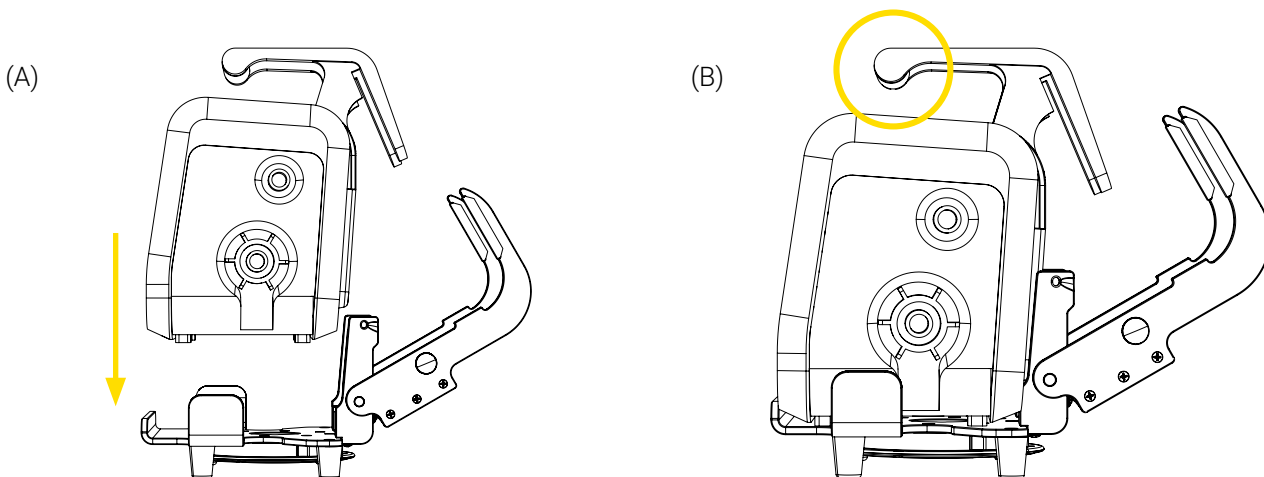

Figure 3: Inserting the medical device in the Bracket Pro Serie 60 - SD
2. Insert the medical device in the bracket using the handle, ensuring it is centered between the front and side folds of the bottom plate (Figure 3 A). Once installed, leave the ventilator handle up (Figure 3 B).